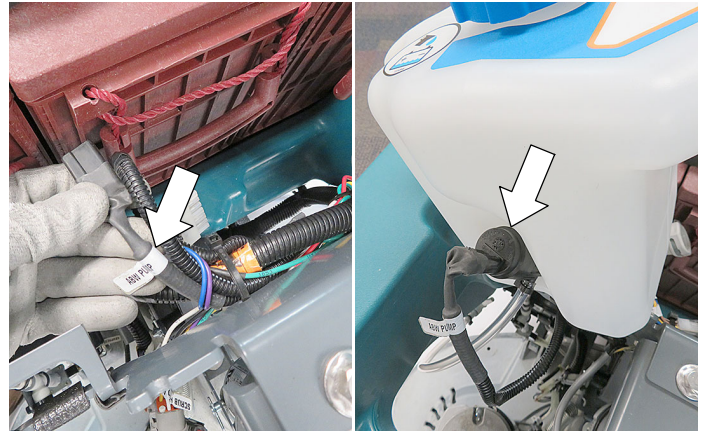

Fig. 7
9. Install the ABW tank assembly. Locate the factory installed ABW pump harness connector near the protective molding. Cut the zip-tie to free up the wire connector. Re-secure the remaining harness wires with zip-tie. Plug the connector into the ABW pump located on tank assembly (Figure 7).